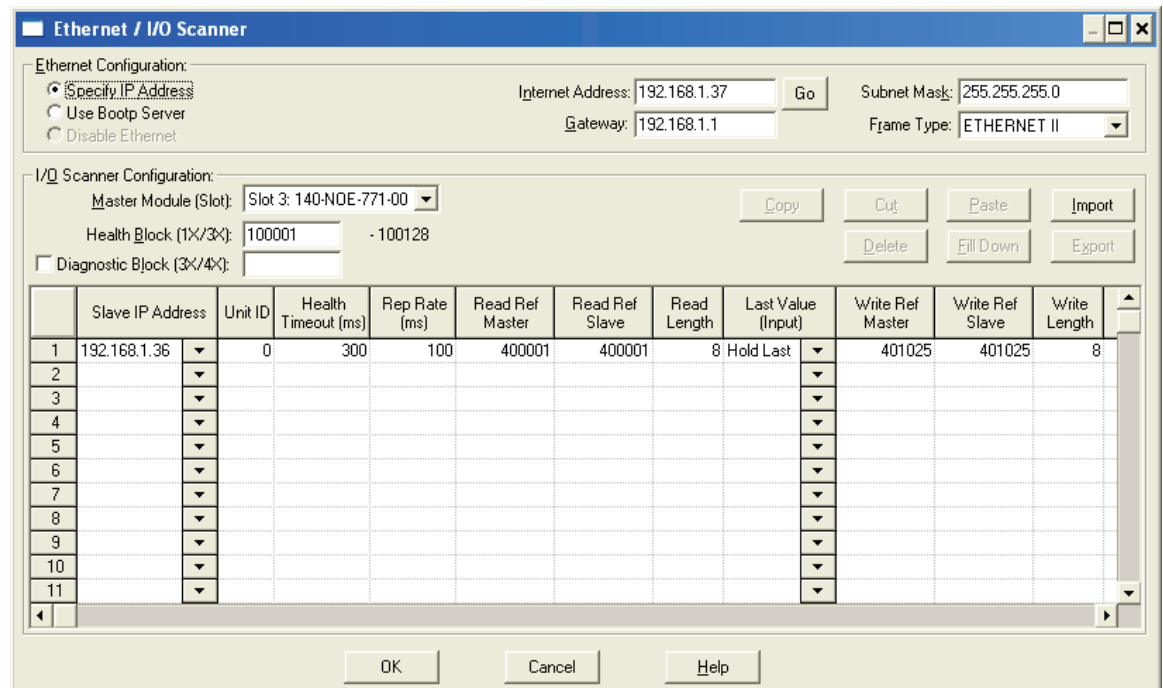

Figure 5-9: Ethernet / I/O Scanner Window
- Click on the Config Extensions Folder in the center pane, above. The branch will expand to show Ethernet / I/O Scanner. Double click on the Ethernet / I/O Scanner to bring up the details of the Ethernet card (Figure 5-9).
For a more detailed description of each column in the configuration window, click on the Help button (at lower right in Figure 5-9). The following elements must be configured: